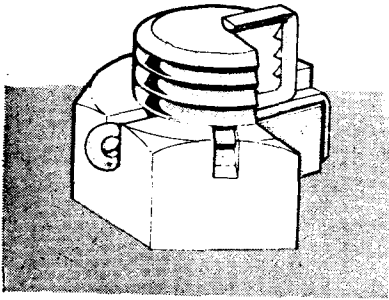

Fig. 7. Split pin
e. Split pin. A split pin is used with a slotted or castellated nut. The steel pin lies in a slot in the nut and passes through a hole in the bolt. The pin must be secured in position by bending the legs as shown in Fig. 7. A split pin must be used *once* only.